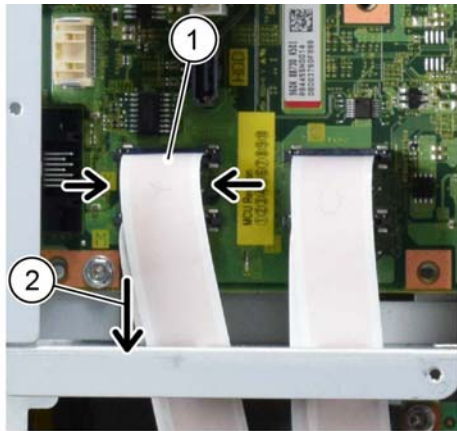

Figure 5 FFC cables
8. Disconnect the four FFC cables, Figure 5: